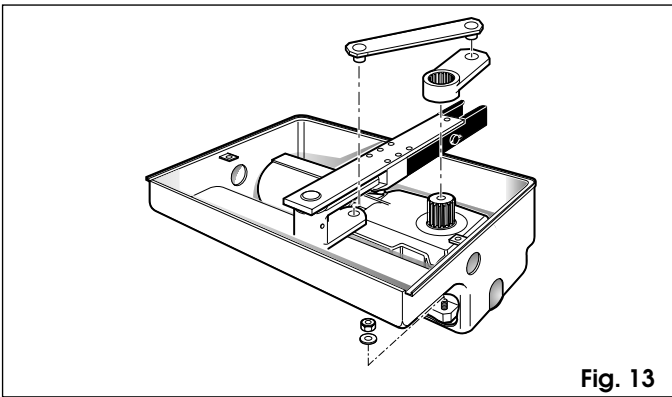

Fig. 13
- Place the operator on the fastening screws on the foundation box, and fix it by means of the nuts and washers supplied (fig. 13).
- Manually close the leaf and fit the driving levers supplied, as shown in fig. 13.